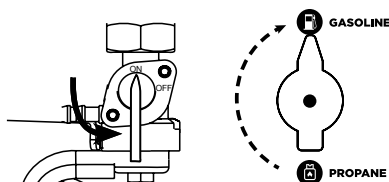

Figure 9 - Fuel Shut Off - ON
- a. Move the fuel shut off valve to the **ON** position (see Figure 9).
- b. Turn fuel selector knob to **GASOLINE** (see Figure 9).